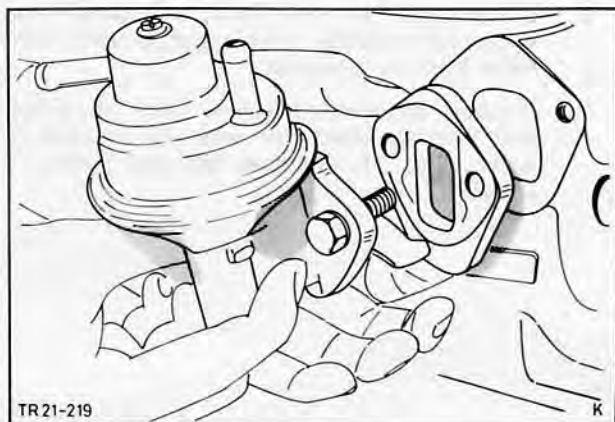

Fig. 34. Remove fuel pump
13. Detach fuel pump (2 bolts) together with spacer, Fig. 34.